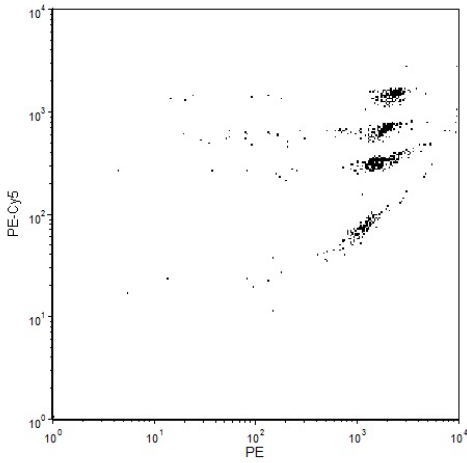

Figure 3
- 1) Verify all the bead populations on the PE-axis are on scale (Figure 3).